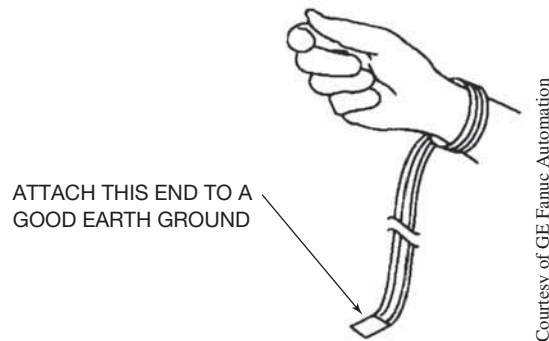

Figure 3–8 Wrist Strap Grounding Device
2. Wear a conductive wrist strap that has a minimum 200K ohm resistance and is connected to earth ground as shown in Figure 3–8.